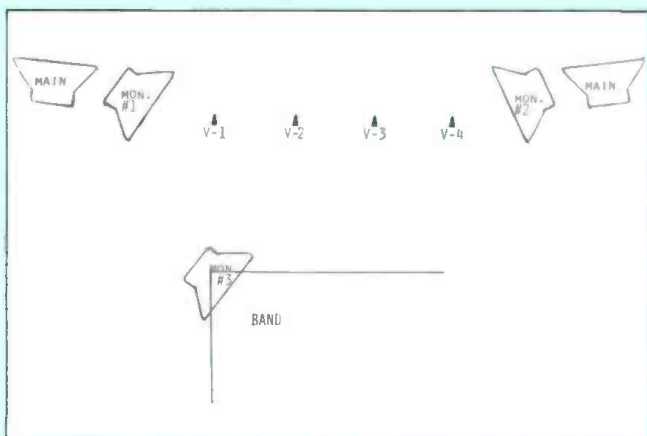

Figure 3. Illustration of possible small church or club set-up.
**PROBLEM #1:** Front monitors or side-fill monitors, or both, must be opposed (nearing 180°), due to stage layout or space limitations. The illustration (Figure 3) could be a small church or club. The performers shown as V-2 and V-3 will perceive low frequency cancellation. Performers V-1 and V-4 should not be bothered, nor should the band.